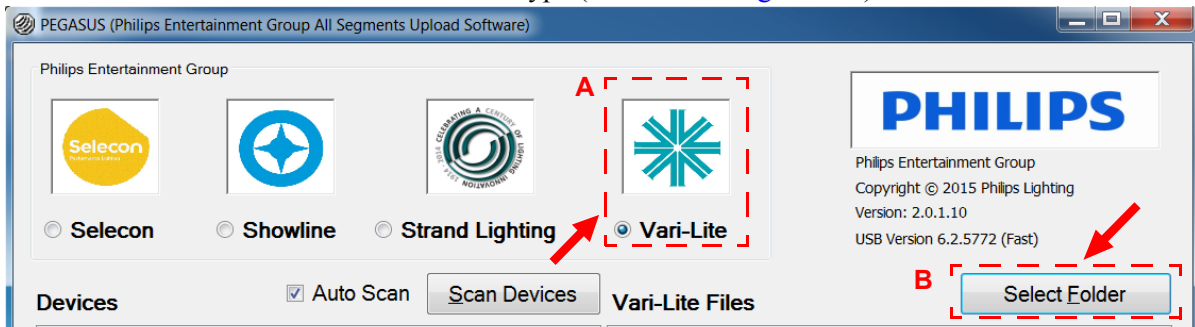

Figure 3-8: PEGASUS Software Selection Screen
- a. Select Vari-Lite for luminaire type (as shown in Figure 3-8).
- b. As indicated in Figure 3-8, click on Select Folder button to open browser window.